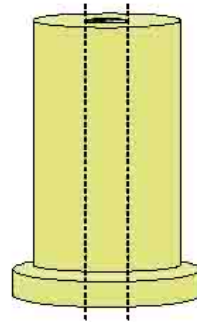

**Figure 12.** Bearing and bushings should be properly grounded if a shaft extends into an assembly.
- G. For motors that have a shaft that extends into an assembly, the shaft can become an antenna that radiates noise as shown with the crimping tabs. To reduce radiated noise, ensure that metal bearings or bushings are properly grounded to the housing (Figure 12).